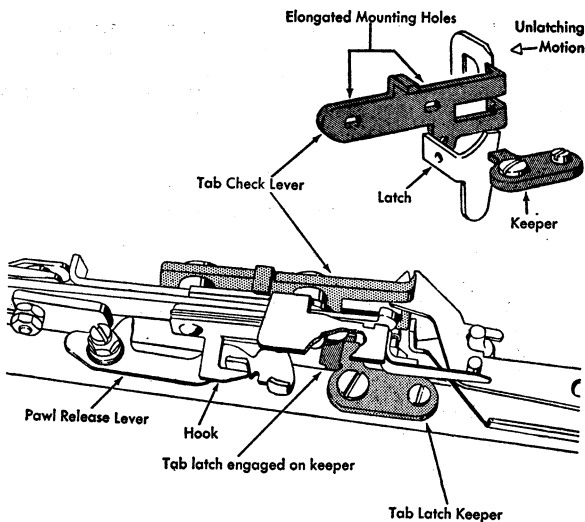

Figure 32. Tab Latch Keeper Adjustments
- c. Position the carriage so that the set tab stop just touches the tip of the tab check lever and observe that there is $1/2$ to $2/3$ overlap of the tab check lever on the tab stop (Figure 32).
- d. Move the keeper left or right to obtain .030" to .050" overlap of the tab latch on the keeper (Figure 32).
7. PAWL CLEARANCE is obtained by forming the rear upright lug of the pawl release lever until the escapement pawl clears the escapement rack by $1/64$ " during tabulation (Figure 32). Observe this by latching the tab and preventing any carriage movement while sighting along the escapement rack.